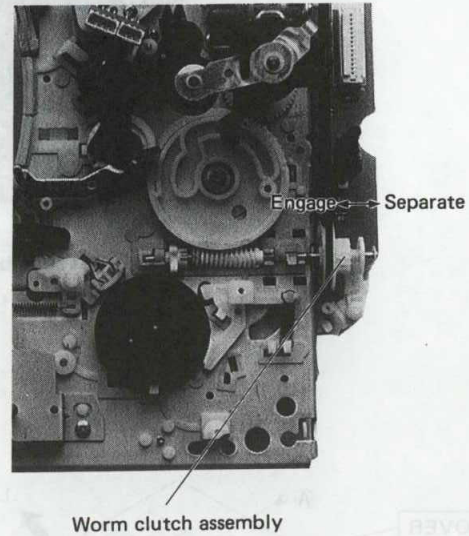

Fig. 2-3-19
- 2) Refer to Fig. 2-3-19 and confirm that the clutch is engaged. If necessary, press the lever indicated by the arrow to where the clutch is locked.